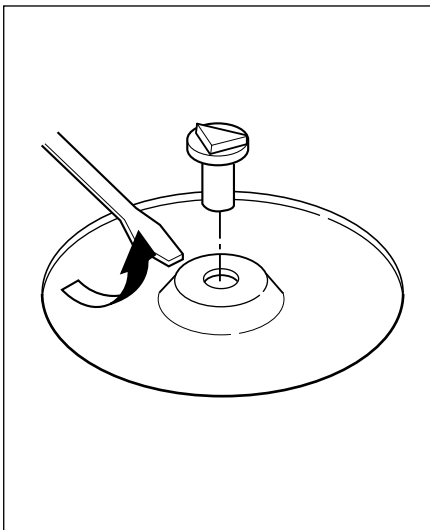
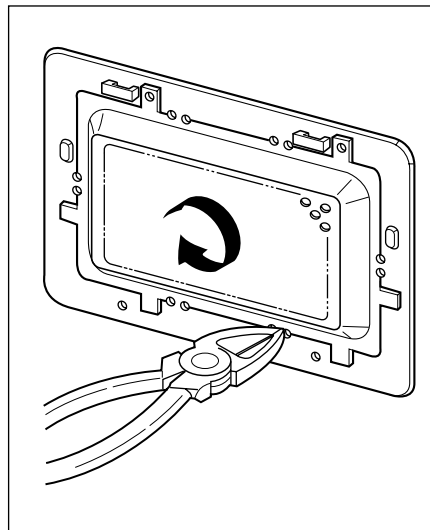

Fig. 19
Fig. 20
H. REMOVING TURNTABLE MOTOR (FIG. 19, 20, 21)
- (1) Remove the turntable, the rotating ring and the turntable shaft. (Fig. 19)
- (2) Lay the set down on its back.
- (3) Remove the turntable motor cover of the baseplate. The turntable motor cover is easily removed by pinching the six parts with a wire cutter. (Fig. 20)
- (4) Disconnect the lead wires from the turntable motor terminals.
- (5) Remove two screws securing the turntable motor to the oven cavity assembly.
- (6) Lift the turntable motor.
- (7) After repairing the motor, rotate the removed turntable motor cover. (Fig. 20)